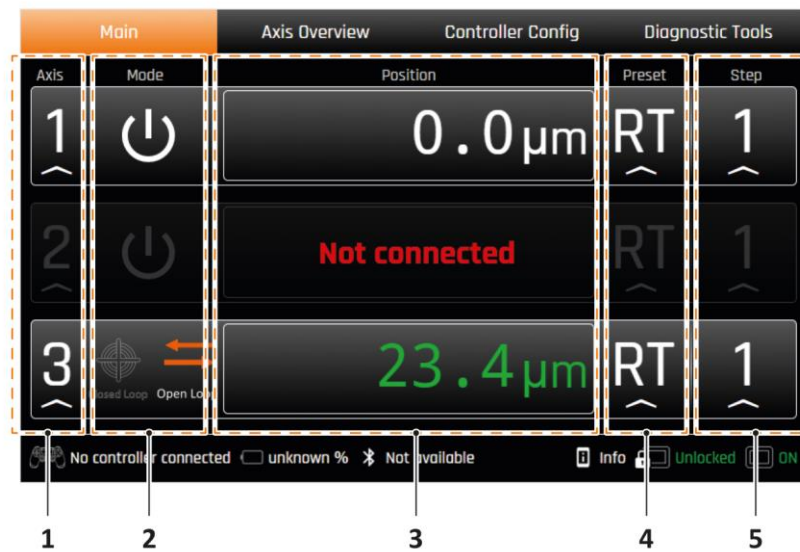

Figure 33 "Main" page
The axis profile can be changed in the respective axis row on the "Main" page (Figure 33/4).
**Access** The "Axis Settings" page can be accessed by tapping on the respective axis' number on the "Main" page (Figure 33/1), or by tapping on the axis' button on the "Axis Overview" page (Figure 35).